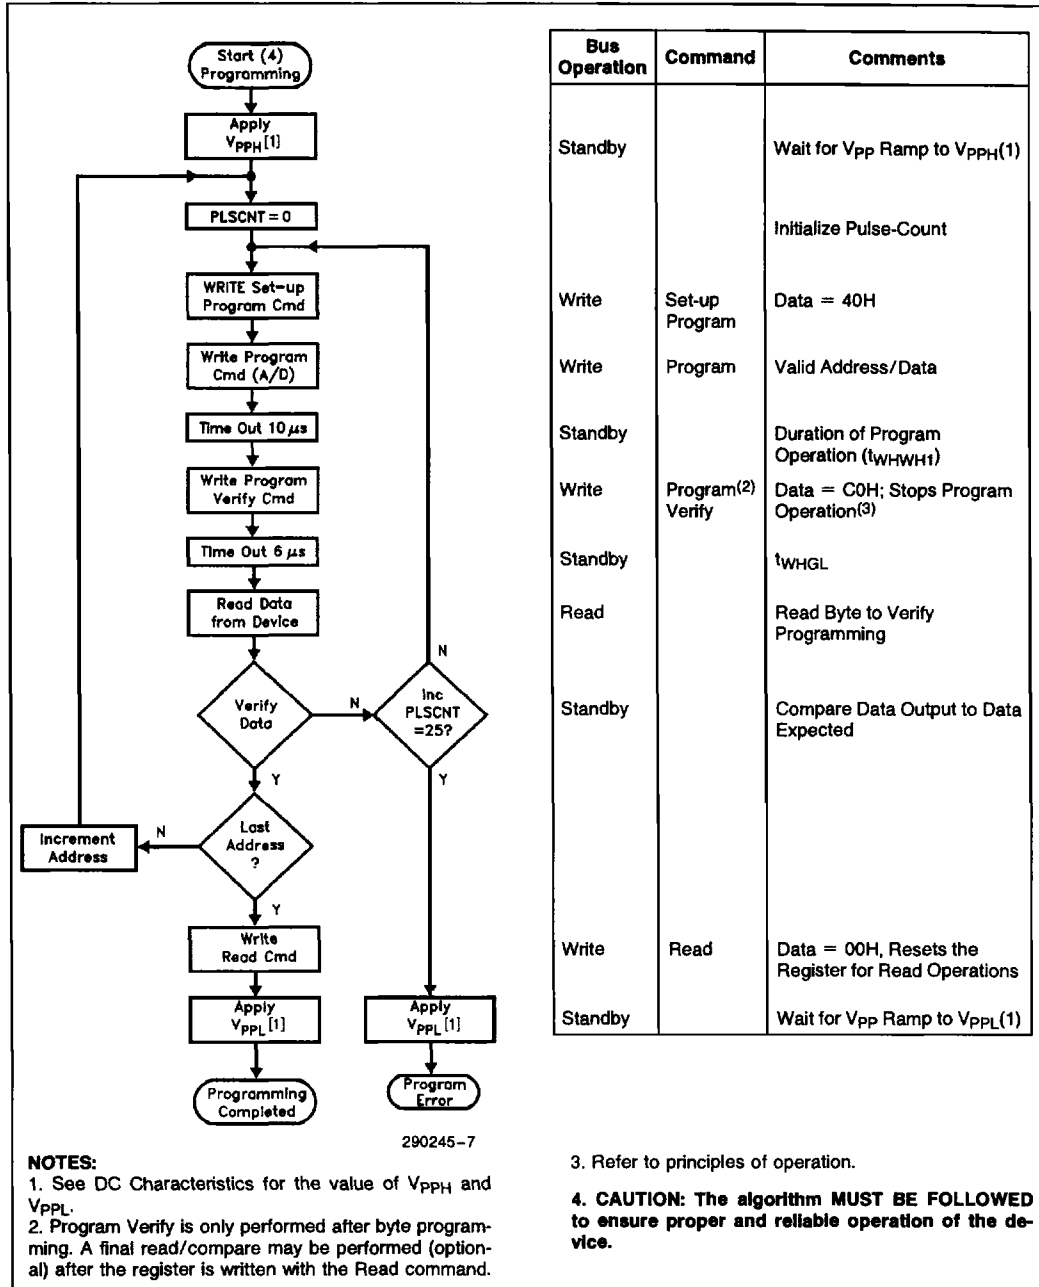

Figure 4. 28F020 Quick-Pulse Programming Algorithm
- Figure 4 illustrates the Quick-Pulse Programming Algorithm.
The 28F020 applies an internally-generated margin voltage to the byte. A microprocessor read cycle outputs the data. A successful comparison between the programmed byte and true data means that the byte is successfully programmed. Programming then proceeds to the next desired byte location. Figure 4, the 28F020 Quick-Pulse Programming algorithm, illustrates how commands are combined with bus operations to perform byte programming. Refer to AC Programming Characteristics and Waveforms for specific timing parameters.
The Quick-Pulse Programming algorithm uses programming operations of 10  $\mu$ s duration. Each operation is followed by a byte verification to determine when the addressed byte has been successfully programmed. The algorithm allows for up to 25 programming operations per byte, although most bytes verify on the first or second operation. The entire sequence of programming and byte verification is performed with VPP at high voltage. Figure 4 illustrates the Quick-Pulse Programming algorithm.